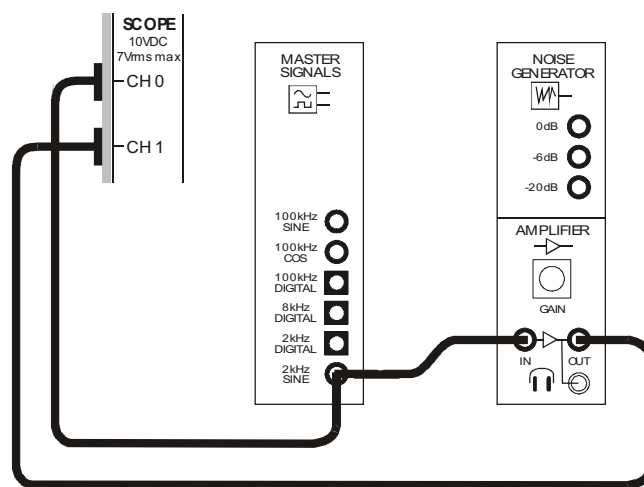

Figure 6
14. Connect the set-up shown in Figure 6 below.